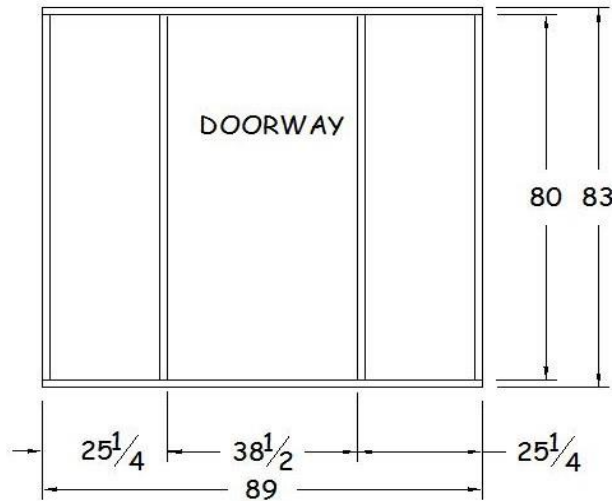

Figure 22-3. Front Wall Framing.
- a. Cut two pieces of 2x4 to 89" lengths. Pair them as upper and bottom plates and lay out stud locations as shown in Figure 22-3.
- c. Assemble the wall by nailing through the upper and bottom plates into each stud with two 3 1/4" collated nails. Leave space for the doorway as shown in Figure 22-3.